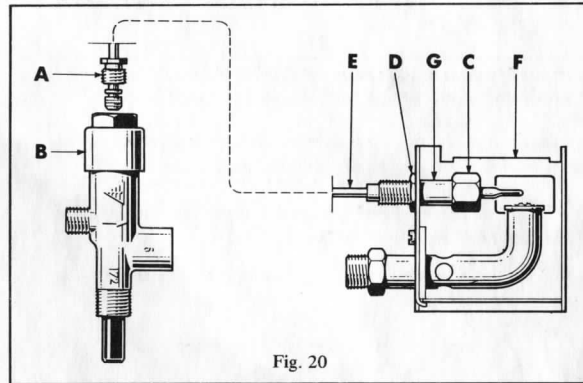

Fig. 20
5. Thermocouple may be defective, replace as follows: (See Fig. 20)
- a. Unscrew plug (A) from the valve housing (B).
- b. Loosen the position nut (C) and lock nut (D).
- c. Screw off nut (C), remove spacer (G) and nut (D). Release the thermocouple feeler (E) from burner housing (F).
- d. Bend the new thermocouple to the same shape as the old one. Screw nut (D) into the new element.
- e. Put the feeler through the hole in the burner housing (F), refit the spacer (G) and screw the position nut (C) tight against the shoulder on the feeler. Make sure the nut (D) is free during this operation.
- f. Tighten the lock nut (D) against the burner housing with a small spanner, if necessary, holding nut (C) with another spanner. Make sure the feeler is located as in Fig. 20.